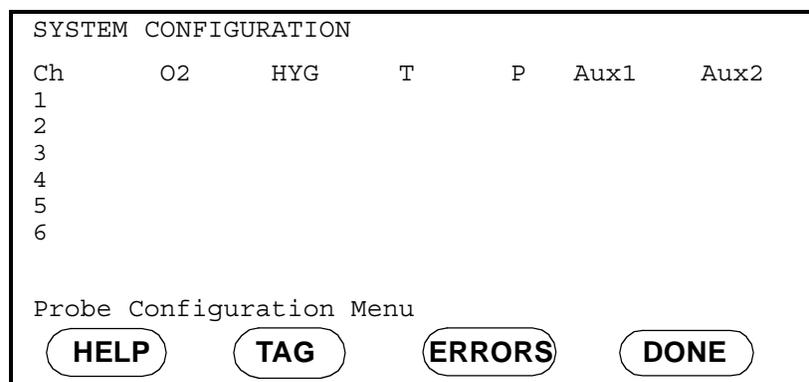

Figure 2-5: Probe Configuration Menu
1. Enter the Probe Configuration Menu (for a menu map, refer to Figure 3-19 on page 3-32). A screen similar to Figure 2-5 below appears.